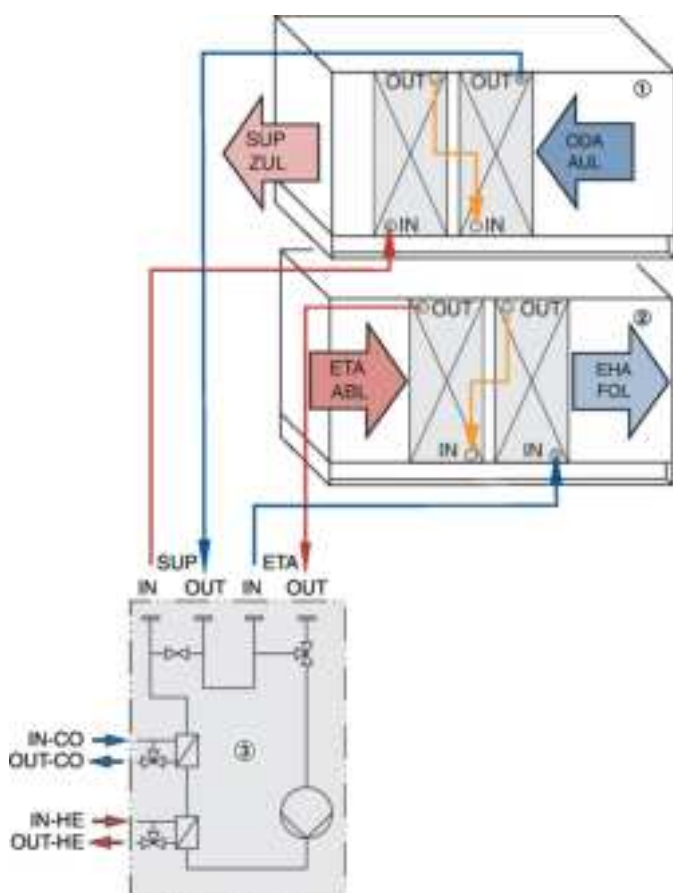

Fig. 36: Hydraulic system connection (example)
- ① Supply air unit
- ② Extract air unit
- ③ hydraulic unit
3. ▶ Connect the heat exchanger with the hydraulic unit (Fig. 36).
4. ▶ Run-around coil systems with external feeding: Make the required connections (Fig. 36).